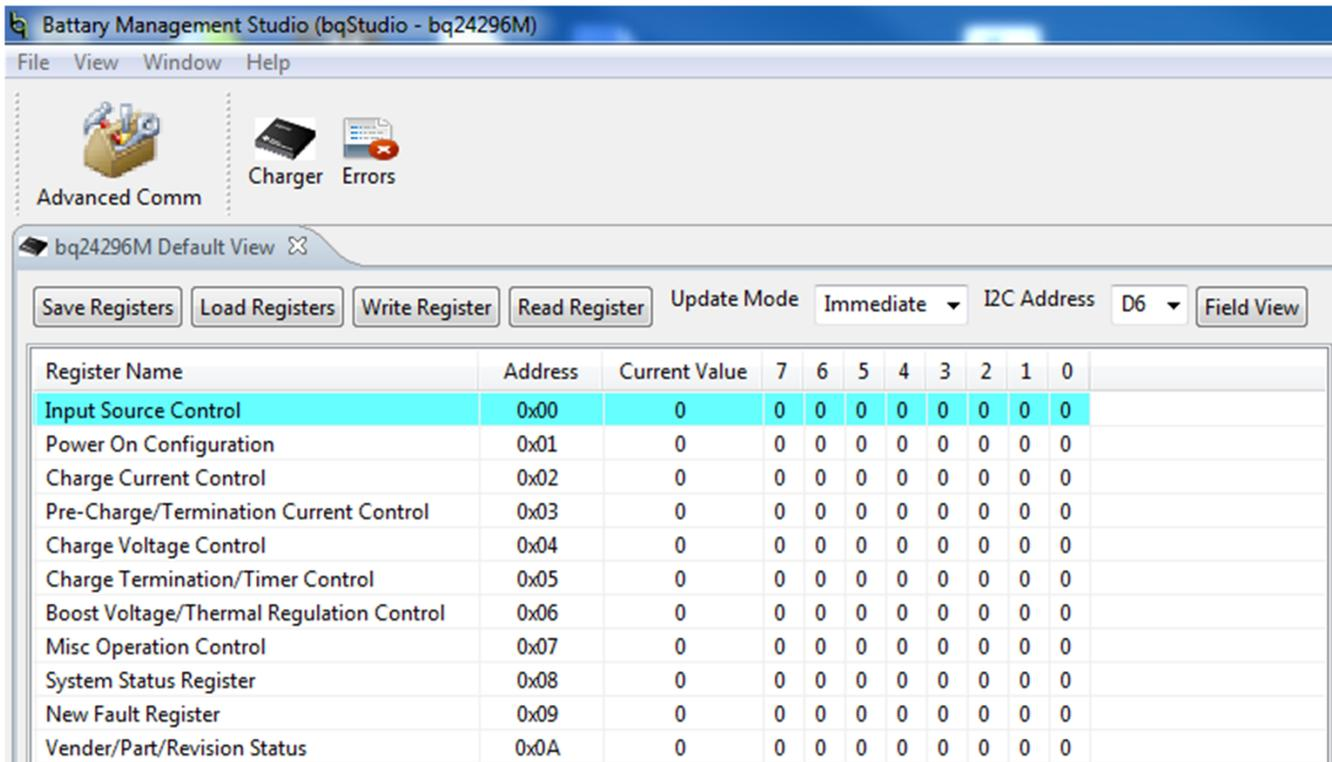
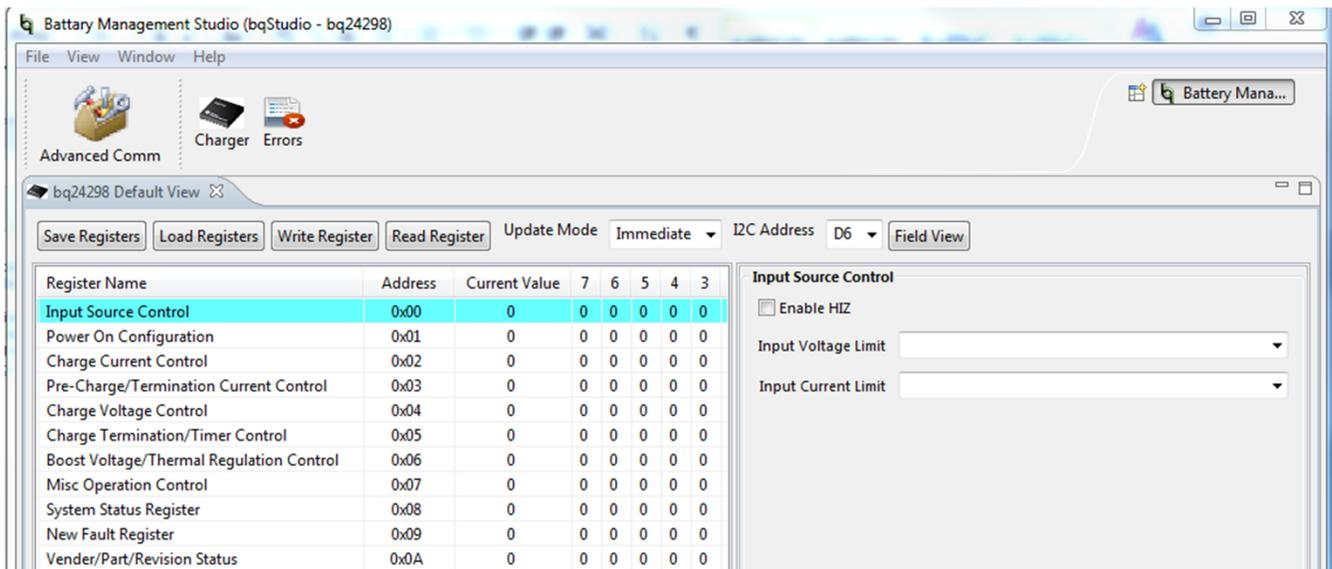

Figure 3. Main Window of the bq24296M Evaluation Software
Figure 4. Main Window of the bq24298 Evaluation Software
- Turn on the computer. Launch the evaluation software. The main windows of the bq24296M and bq24298 software are shown in Figure 3 and Figure 4, respectively.